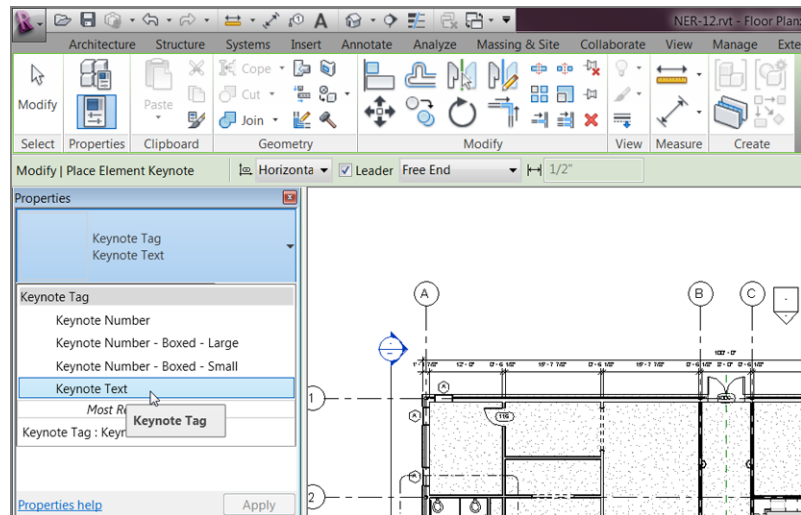

FIGURE 11.89: Choosing Keynote Tag > Keynote Text
4. In the Type Selector, click Keynote Tag > Keynote Text, as shown in Figure 11.89.